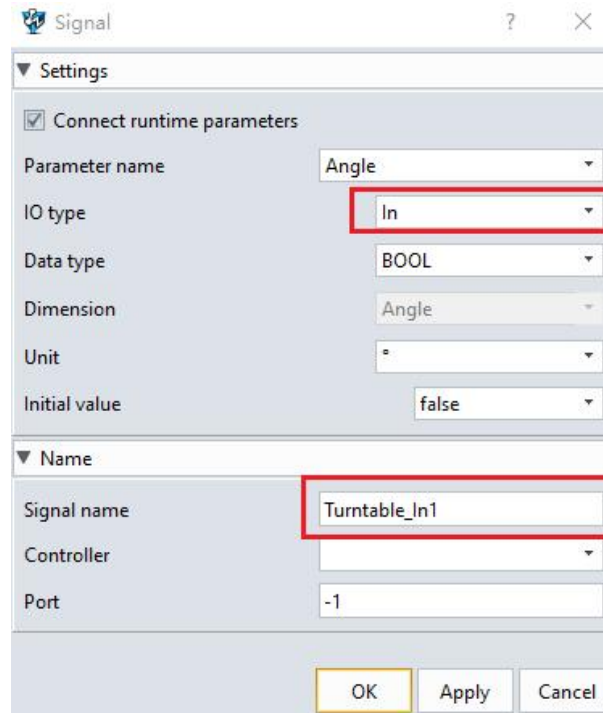

Figure 13-34: Signal message
- Specify "In" as the IO type, assign names, and set port values.(Figure 13-34)